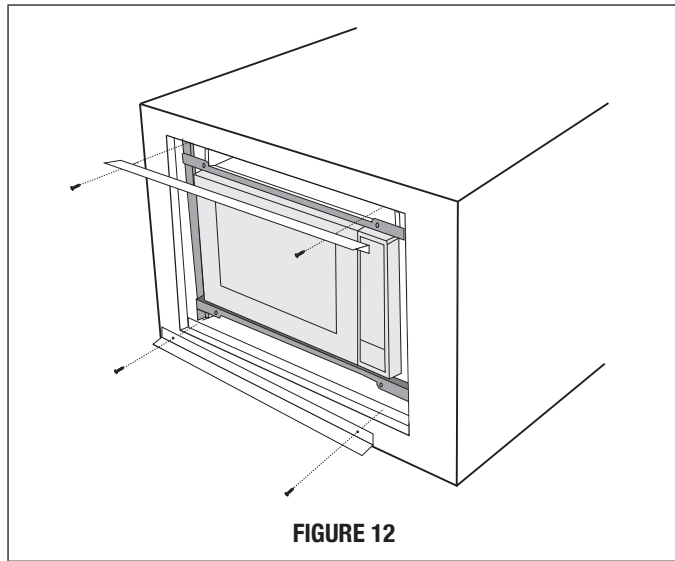

FIGURE 12
E. Install Air Deflectors top and bottom. Center (left and right) the Air Deflectors above and below the installed BACK FRAME. Secure Air Deflectors with 4 SCREWS (G). See Figure 12. Mark holes and pre-drill the wood cleats with 1/16" drill bit.